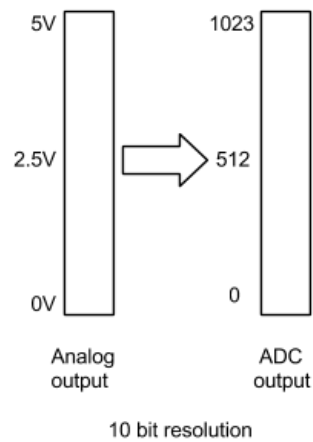

Figure 2.2: ADC resolution
**Analog to Digital Converter (ADC):** Most of the signals around us are continuous. Digital circuits cannot process them. An ADC converts them into digital signals. The resolution of the ADC determines the efficiency of conversion. For example, a 10-bit resolution of the ADC relates to 1024 values per sample. This is shown pictorially in Fig. 2.2. Higher resolution relates to better translation of an analog signal.